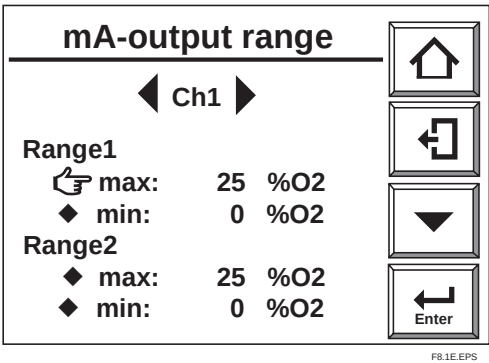

Fig. 8.1 Current-output range
- 2) From the [Commissioning] display select [mA-output setup] then [Set Range]. (See Fig. 8.1).